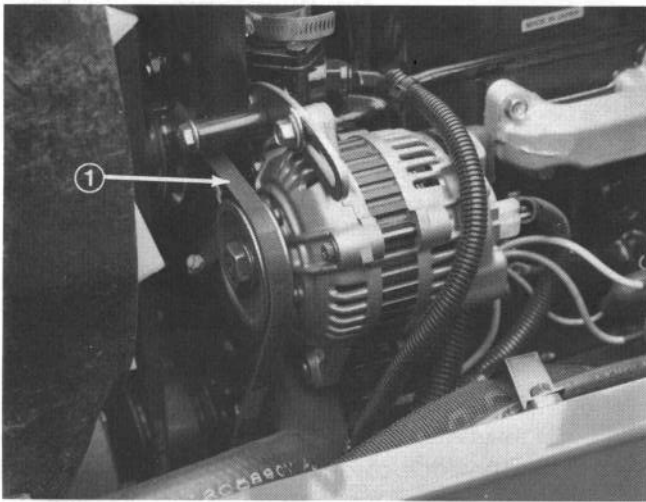

Figure 44
SERVICING ENGINE BELTS (Fig. 44 & 45)
3. Loosen bolt securing brace to engine and bolt securing alternator to brace (Fig. 44).